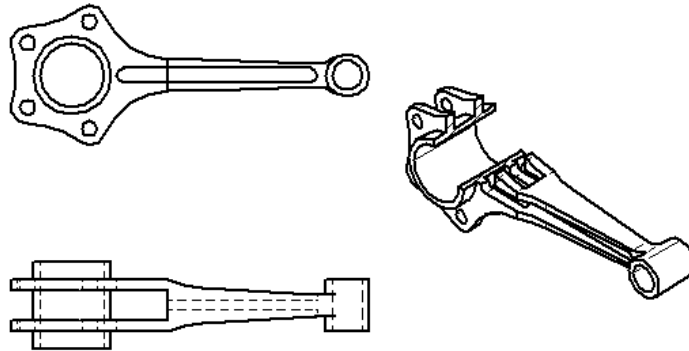

Figure 12-17 Isometric broken section view
4. Select the isometric view (pictorial view) to generate the broken-out section view, as shown in Figure 12-17.